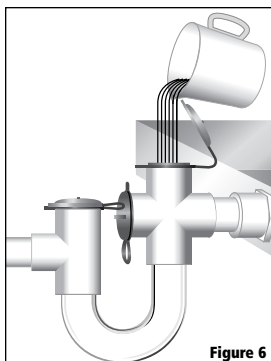

Figure 7
7. Replace Red Cap on top of inlet Cross and seat firmly (**Figure 7**). Red Caps are removable for cleaning and testing only. All Caps must remain closed during normal operation of the trap.